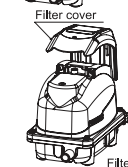

Figure 2
- ③Remove the filter cover. (Figure 2) Hold both ends and pull upward.